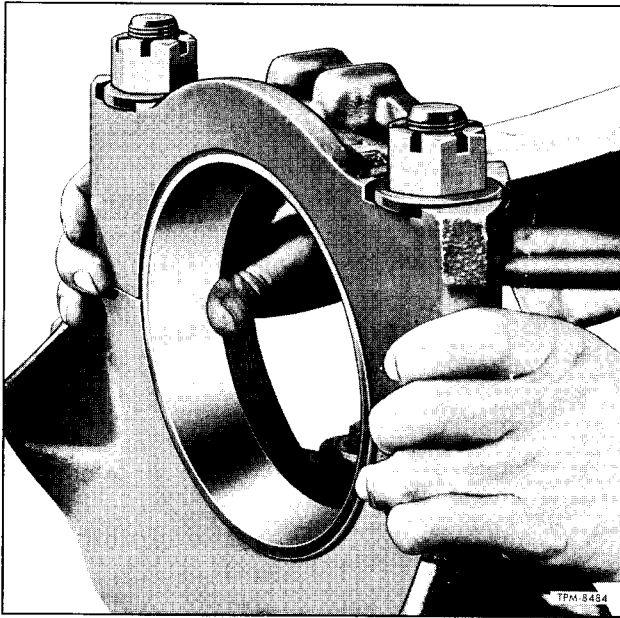

Figure 11—Checking Fit of Differential Bearing Cup
1. Temporarily install bearing cup (44), adjuster ring (8), and bearing cap (45), then tighten stud nuts (47) to recommended torque.
2. Bearing cup must be a hand push fit (fig. 11) in bore, otherwise the bore must be reworked with a scraper or emery cloth until proper fit is obtained. Location of high spots in carrier bore can be readily located by applying a light coating of prussian blue to bearing cup.